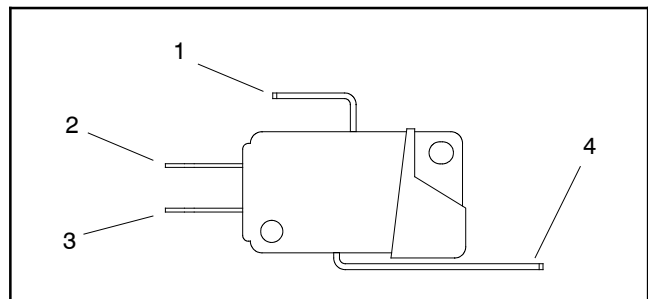

Figure 38
4. Connect a multimeter (ohms setting) across the common and normally closed (NC) terminals of the brake switch (Fig. 38).
5. With the parking brake released (not applied), the washer on the parking brake lever should be depressing the lever on the brake switch. In this switch position, there **should not be continuity** (infinite ohms) between the common and normally closed (NC) switch terminals.